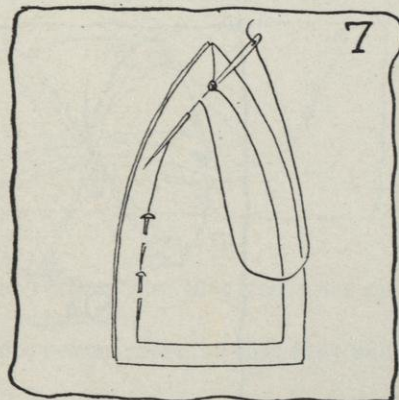

FIG. 7.
- (3) Take the pin out.
- (4) Pull the thread through. Take $\frac{1}{8}$ inch stitch forward, and then go back into the hole where the knot is. The first stitch should really be a back stitch, for the point must be held firmly (see Figure 7).
- (5) Continue to baste, with $\frac{1}{4}$ -inch stitches, down to the headsize of these two sections, turning from one side to the other and being very careful to baste directly through the chalk lines (see Figure 7).